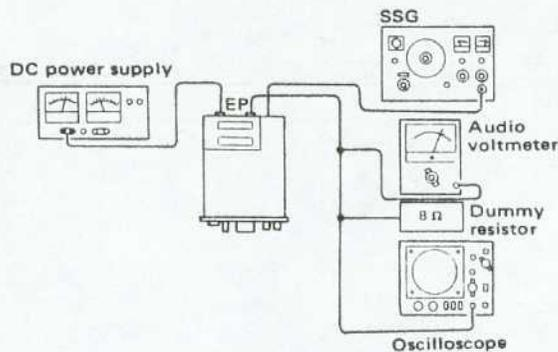

Fig. 16 IF Circuit Adjustment
- (1) Disconnect the sweep generator and detector, and connect SSG and AF valve voltmeter as shown in Fig. 16.
- (2) Turn the ④-⑤-RPT knob to ⑤, channel knob to Position "00", and set the AUX switch at OFF.